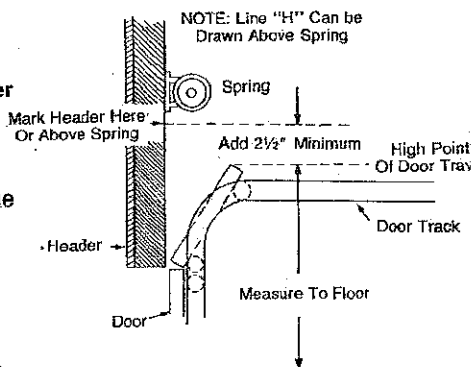

Fig. 3 Header bracket position
2. Establish header bracket position (Fig. 3).
- Draw horizontal line "H" across line "V" at this point (Fig. 3).